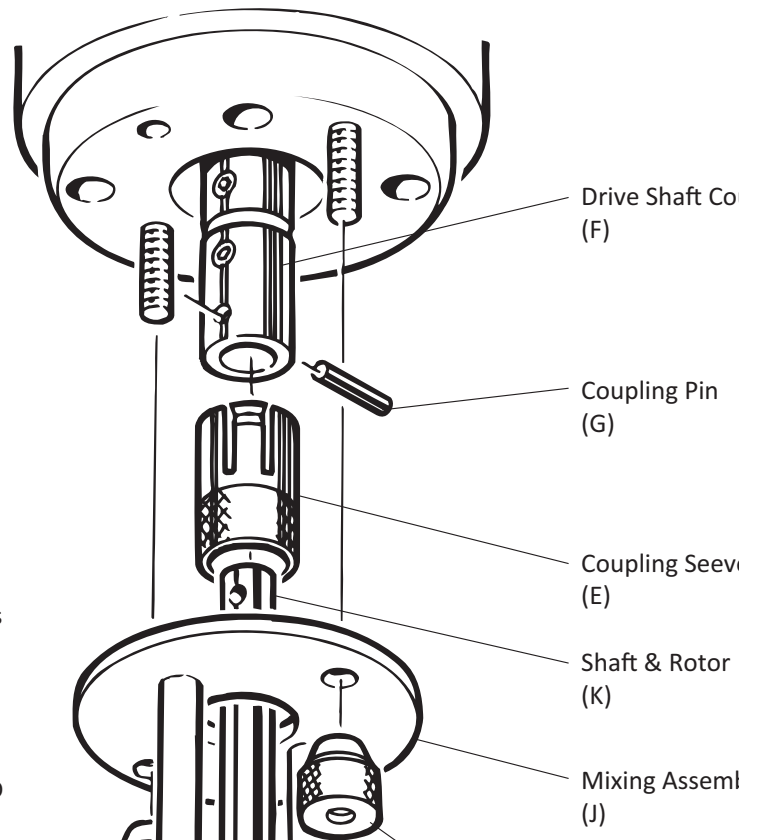

Fig. 2 Fitting The Standard Mixing Assembly
| Fig. 2 Fitting The Standard Mixing Assembly | 8 |
3.3 ATTACHING THE MIXING ASSEMBLIES (Refer to FIG. 2)